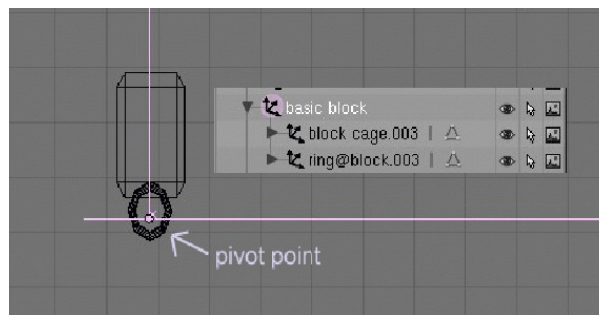

Figure 4: basic block assembly
- Now scale the cube as shown in figure 4.
- Use *Object>>Duplicate* to create a second block. Repeat this for the third block. Name the objects as shown in figure 4.